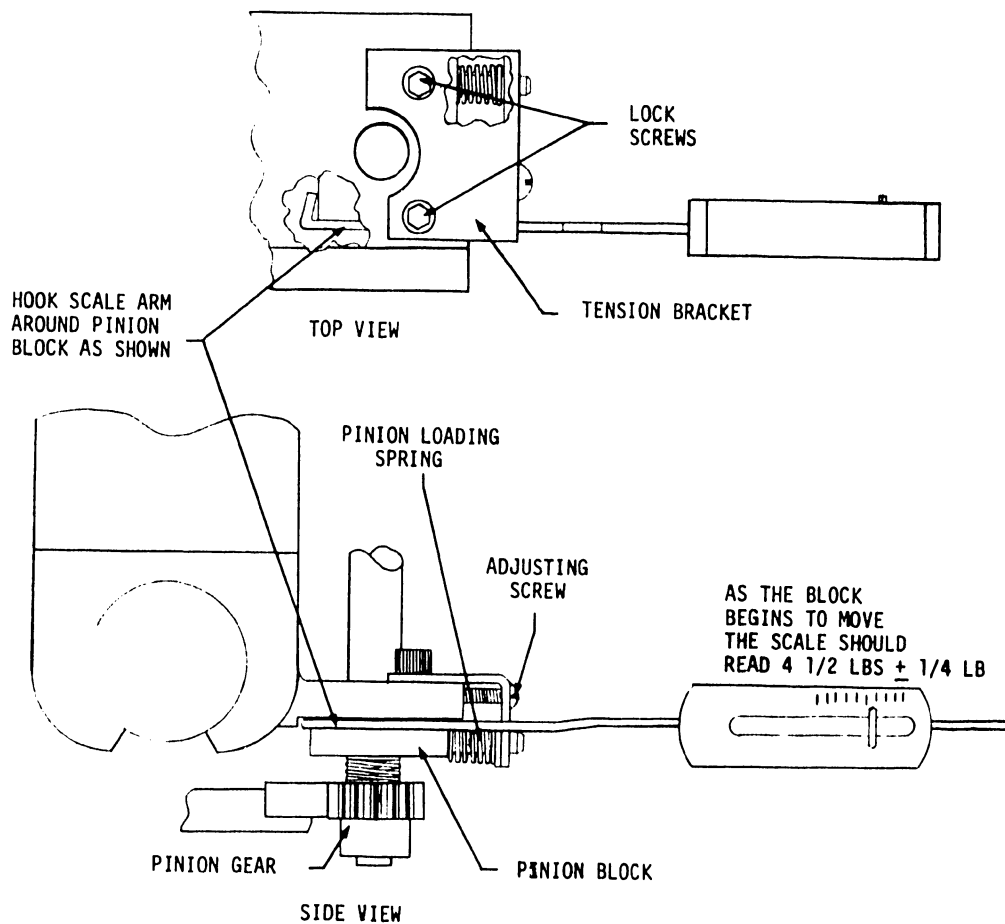

FIGURE 11
- 1) When pulling on the pinion block with a spring scale, the block should begin moving at 4.5 lbs.  $\pm$  .25 lb. See Figure 11.